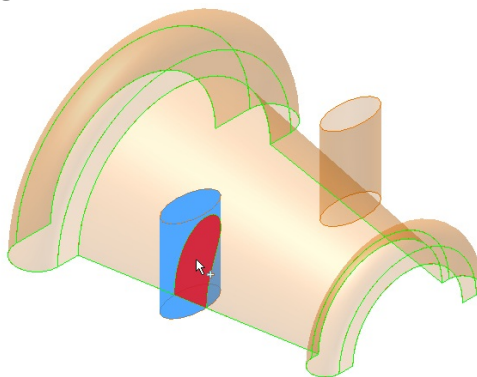

Figure 14-56 *Trimming the base surface*
- d. Split surfaces using the **Face Split** option, refer to Figure 14-56.
2. Select the portion common between the base surface and the extruded surface as the portion to be trimmed, as shown in Figure 14-56. Choose **OK** from the dialog box.